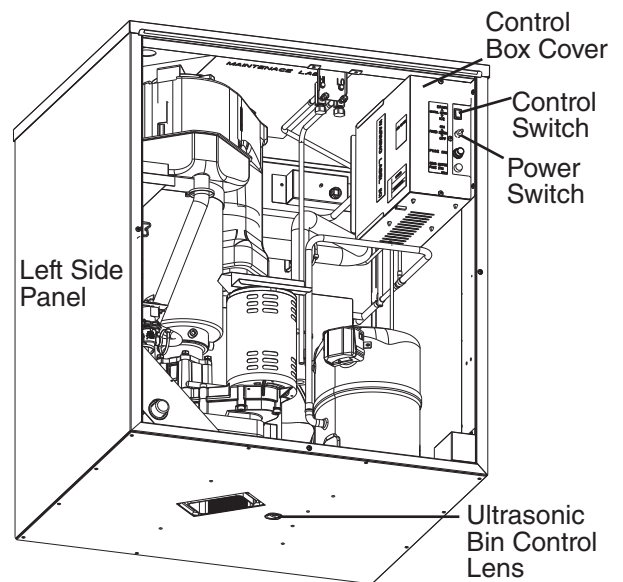
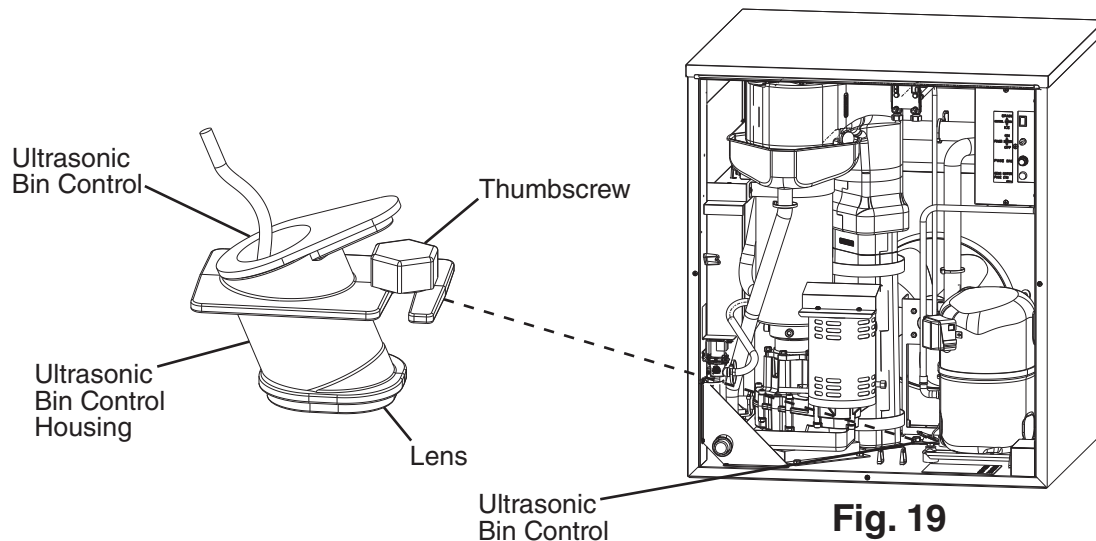

Fig. 18
Fig. 19
- 8) "GM" LED and "COMP" LED are on. Place an object 5" to 7" (127 to 178 mm) away from the bin control lens at the bottom of the icemaker. See Fig. 18. If the bottom of the icemaker is not accessible in your application, remove the thumbscrew securing the bin control sensor housing to the base, then remove the bin control housing. See Fig. 19.